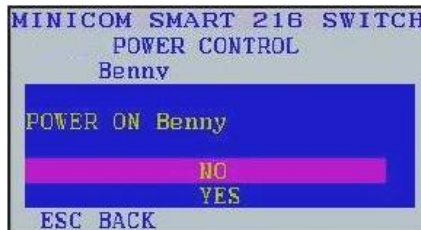

Figure 29 Power prompt
4. A prompt appear, see Figure 29. Select the desired option and press **Enter**. The power command is sent.